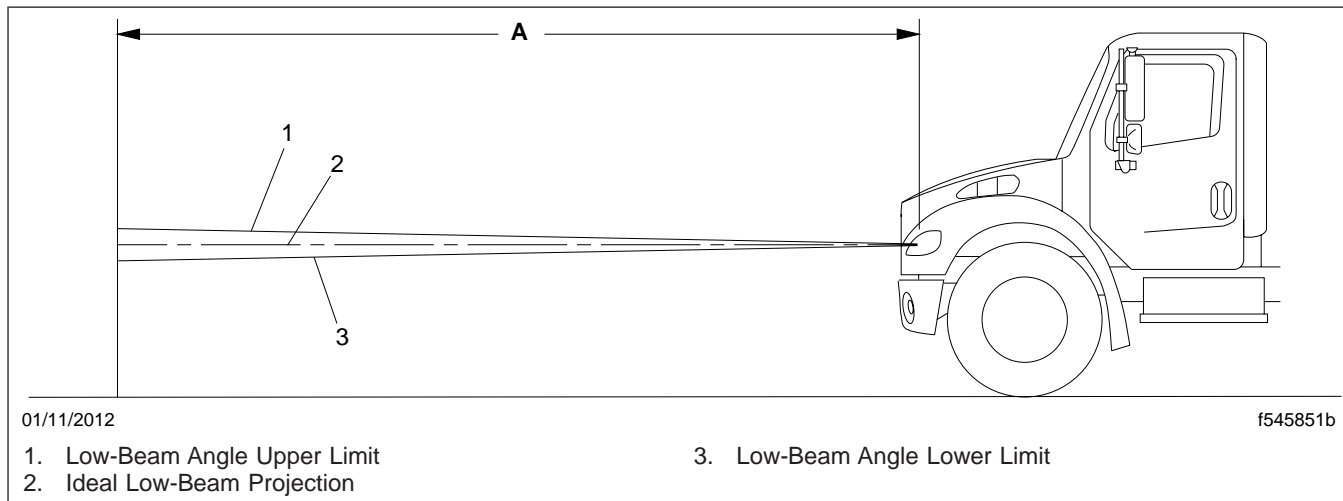

Fig. 14.3, Vertical Low-Beam Headlight Variation Limits
5. Identify the center of each beam projection by marking the area of brightest intensity on the wall. The area of brightest intensity should fall on or very near the marks made during step 3. See Fig. 14.3.